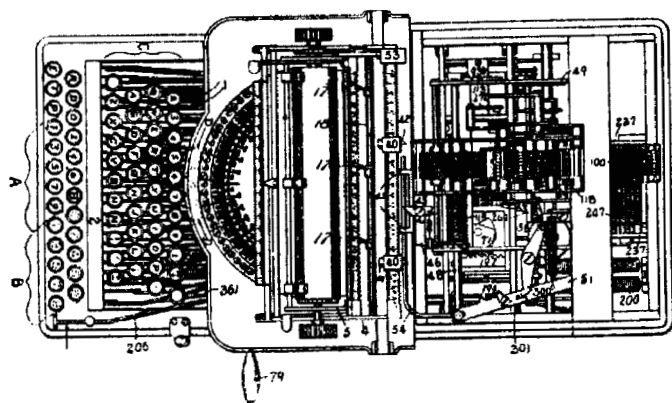

Figure 223
tension cord connected to a tension spring, while the release is handled by two small blades under the toothed rack. On the right side of the platen is the platen gear to which a cam lever is connected—this is used for setting the spacing as usual and at the same time for shifting the carriage to the right, back to the starting position. Next to it there is a lever connected to one of the disks in front of both blades. With the aid of this lever it is possible to remove the blades from the toothed rack, so that the carriage can be easily pulled against the tension spring as far as it is allowed to travel. Above the keyboard are four tab keys (marked *D* in figures 223 and 224) that also operate both blades; that is, take them out of contact with the rack. The corresponding stops sit on a scale attached behind the platen. When the carriage is freed by one of the tab keys and is pulled to the left by means of the tension cord, the stop corresponding to this key halts the carriage at the place where the respective column should begin.
It should be mentioned that the machine is equipped with three groups of sum gears, or totalizers. These are attached to a shaft that is free to be shifted across the machine frame. Each of these three groups of sum gears has ten such gears lying adjacent to one another. According to how it is set, either the left, middle, or right group is within range of the movable toothed racks (marked 100 in figures 223 and 224), on the front ends of which there are the type heads of the adding mechanism. The shaft is attached by means of connecting links to the paper carriage of the machine. As with standard type-
**Addition:** Figures to be added are entered by means of the keys of the calculating machine keyboard (see group **A** on figure 223). These carry the figures into the first of the three front calculating mechanisms and, in this way, as many items as required can be added. The key **T**, in the lowest row of keys of the calculating machine keyboard, is used to print the result. Errors can be corrected by means of the correction key (206 in figure 223).